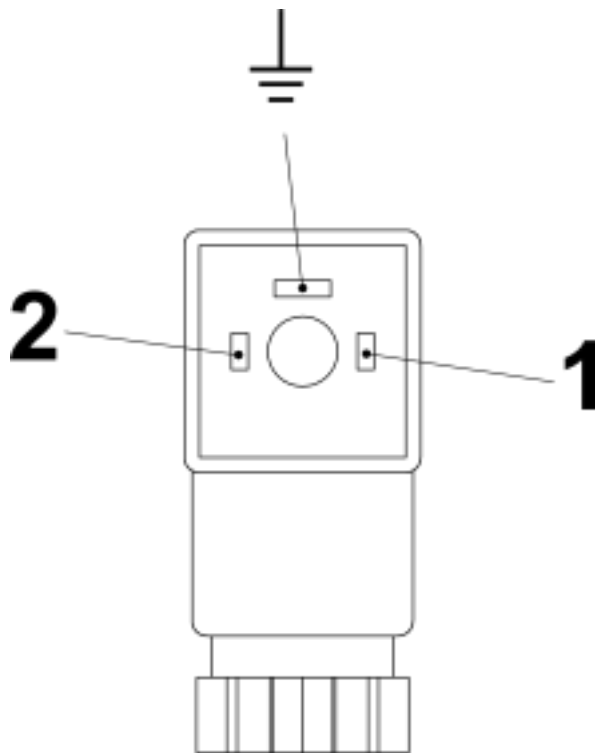
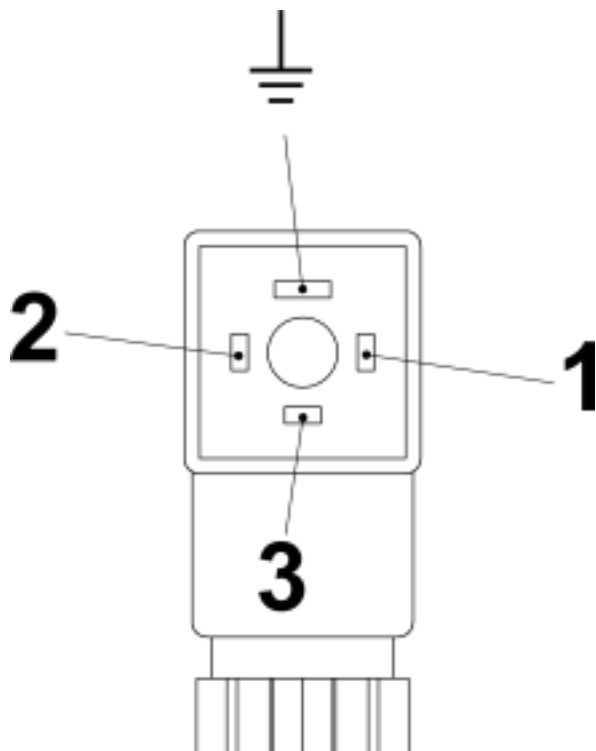

Fig. 24: Pin assignment, plug socket, Normally Open Contact (Form 15x50)
Fig. 25: Pin assignment, plug socket, Change-Over-Contact (Form 15x50)
- 6.** ➤ Make the connections as shown in the connecting diagram (*Fig. 24* und *Fig. 25*)